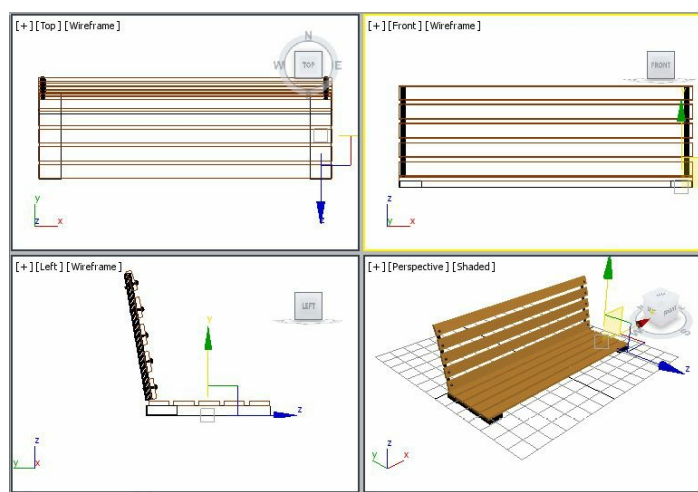

Figure 2-84 Alignment of leg support002 with horizontal seat support
7. Choose the **Select and Move** tool and align *leg support002* to *horizontal seat support* in all viewports, as shown in Figure 2-84.